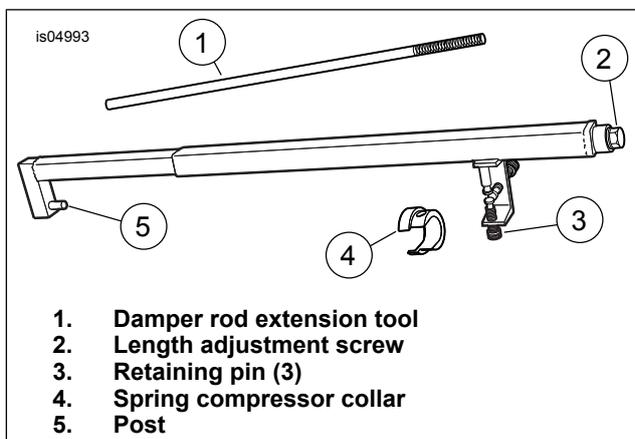

Figure 4. Fork Spring Compressing Tool (HD-45966)
17. See Figure 4. Install fork spring compressing tool:
- a. Clamp tool in vise in a vertical position with length adjustment screw (2) upward.
- b. Place hole at bottom of fork slider over post (5) at bottom end of tool.
- c. Place flat washer (Item 5, Figure 7 ), over the damper rod extension tool and on top of spring. Place spring seat (Item 4, Figure 7 ), concave side up, on top of the flat washer. With the smaller OD upward, place spring compressor collar (item 4, Figure 4 ) over spring seat and flat washer.
- d. Adjust tool as necessary until three retaining pins (3) engage blind holes in spring compressor collar (4). Turn length adjustment screw counterclockwise to lengthen and clockwise to shorten.